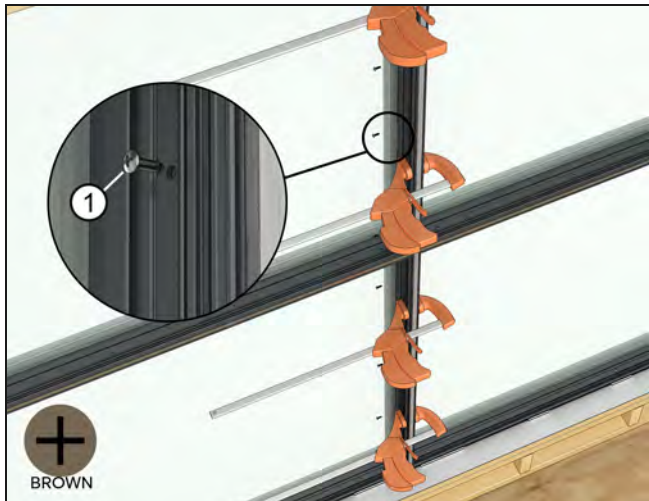

Figure 66
31. Fasten the A2 and B2 to the mull steel using the #8 x 1/2" trilobular screws included. See Figure 66.